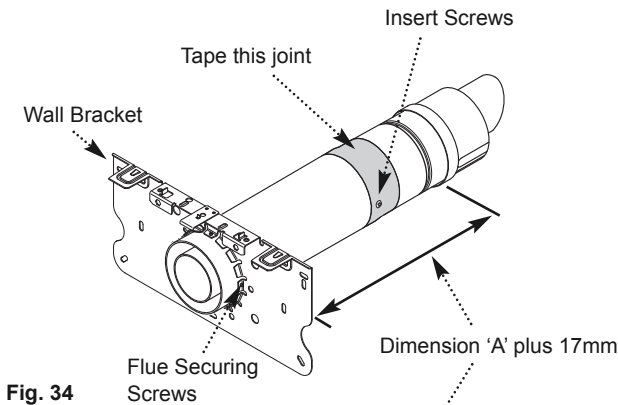
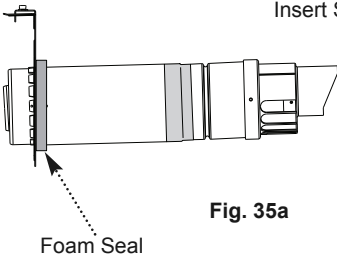

Fig. 34
Fig. 35a
5. Insert the telescopic flue into the wall bracket and secure with the three screws (Fig. 34).
6. Measuring from the wall bracket to the edge of the terminal, adjust the telescopic flue to dimension 'A', add another 17mm to this dimension (Figs. 34 & 35).
7. Seal the joint with the tape provided and secure with the two screws (Figs. 34 & 35). Apply the self adhesive foam seal to the wall bracket and flue joint to prevent draughts when fitting to a cavity wall (Fig. 35a).